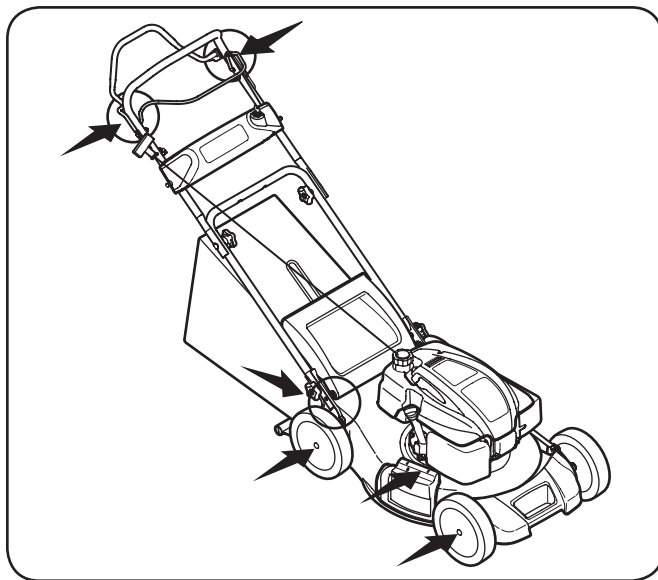

Figure 6-1
1. Lubricate pivot points on the blade and drive controls at least once a season with light oil. These controls must operate freely in both directions. See Fig. 6-1.
2. Lubricate the wheels at least once a season with light oil (or motor oil). If wheels are removed for any reason, lubricate surface of the pivot arm and inner surface of the wheel with light oil. See Fig. 6-1.
3. Lubricate the torsion spring and pivot point on the rear discharge door and side mulch plug periodically with light oil to prevent rust. See Fig. 6-1.